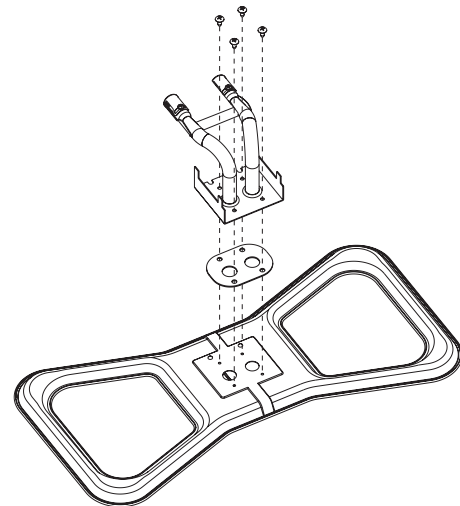

Figure 23
3. Lay the burner face down and remove the four retaining screws from the venturi tube plate and the burner. **See Figure 23.**